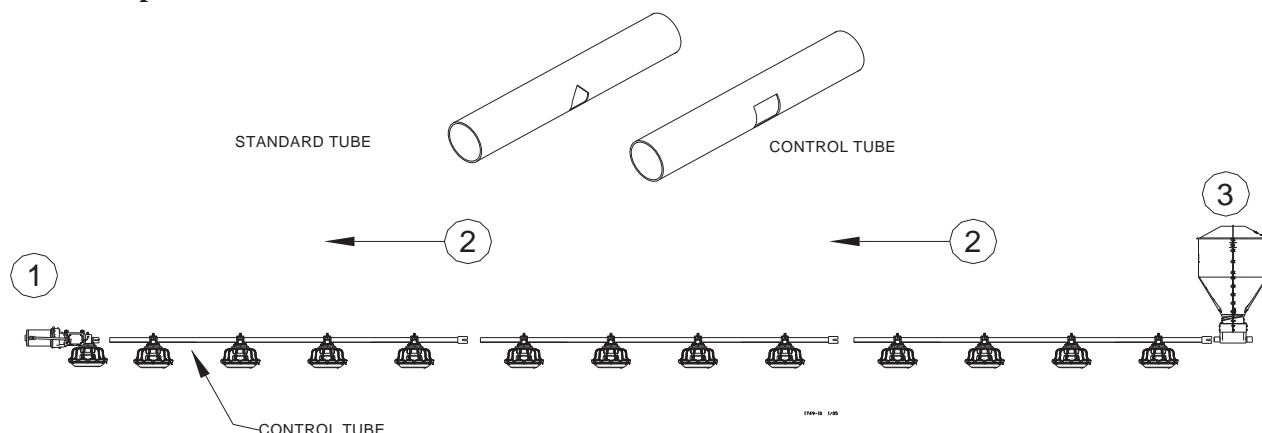

Figure 24. Attaching Feeder Tube Assemblies
1. The actuator, auger tubes and feeders may be laid out end to end in approximately the final location of the line. **The belled end of each tube should be toward the (3) Hopper end of the line. See Figure 24.** Be sure to have the correct number of tubes and the actuator is in the center of the section to be controlled by an actuator.
2. Connect the individual feeder tubes together by inserting the straight end of one tube as far as possible into the (2) belled end of the next tube. **The last Feeder Tube before the (1) End Control Pan or Mid Line Control pan must be a Control Tube.**